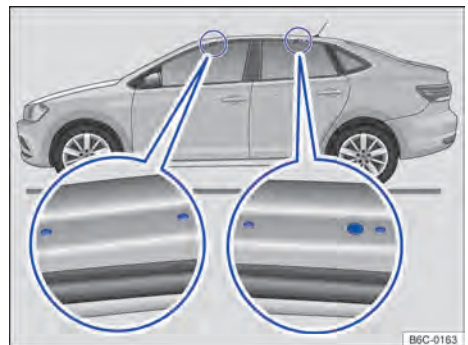

Fig. 160 Fastening points in roof carrier base supports (both sides).
The holes or markings of fastening points in base supports are clearly visible upon opening the vehicles front and rear doors, located next to the roof pillars → Fig. 160 (magnifying glass). The ▶
rear fastening holes or markings are located below the roof pillars → Fig. 160 (right-hand side magnifying glass).
- Only fasten base supports to the markings illustrated in the figure → Fig. 160.